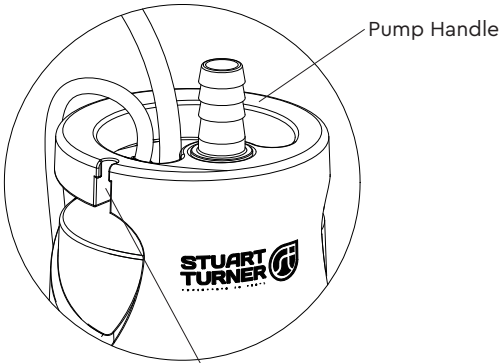

Fig. 3 Moulded cable retention slot
- 2.21 Adjustment of the float switch is achieved by lengthening or shortening the cable through the moulded cable retention slot, which is located in the pump handle (Figs 3 and 4).